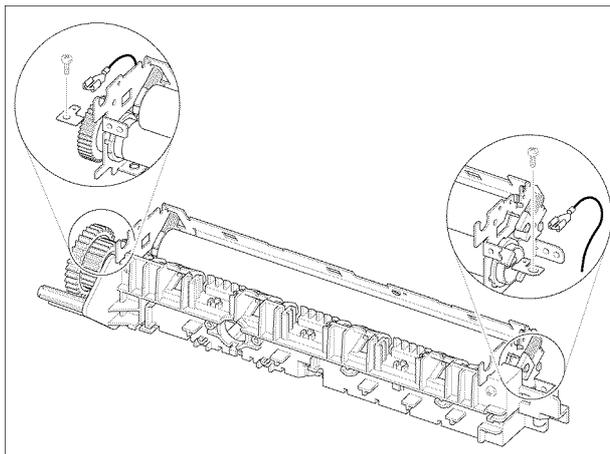

Figure 9
10. Disconnect the halogen lamp harnesses, then remove 2 screws, Figure 9.